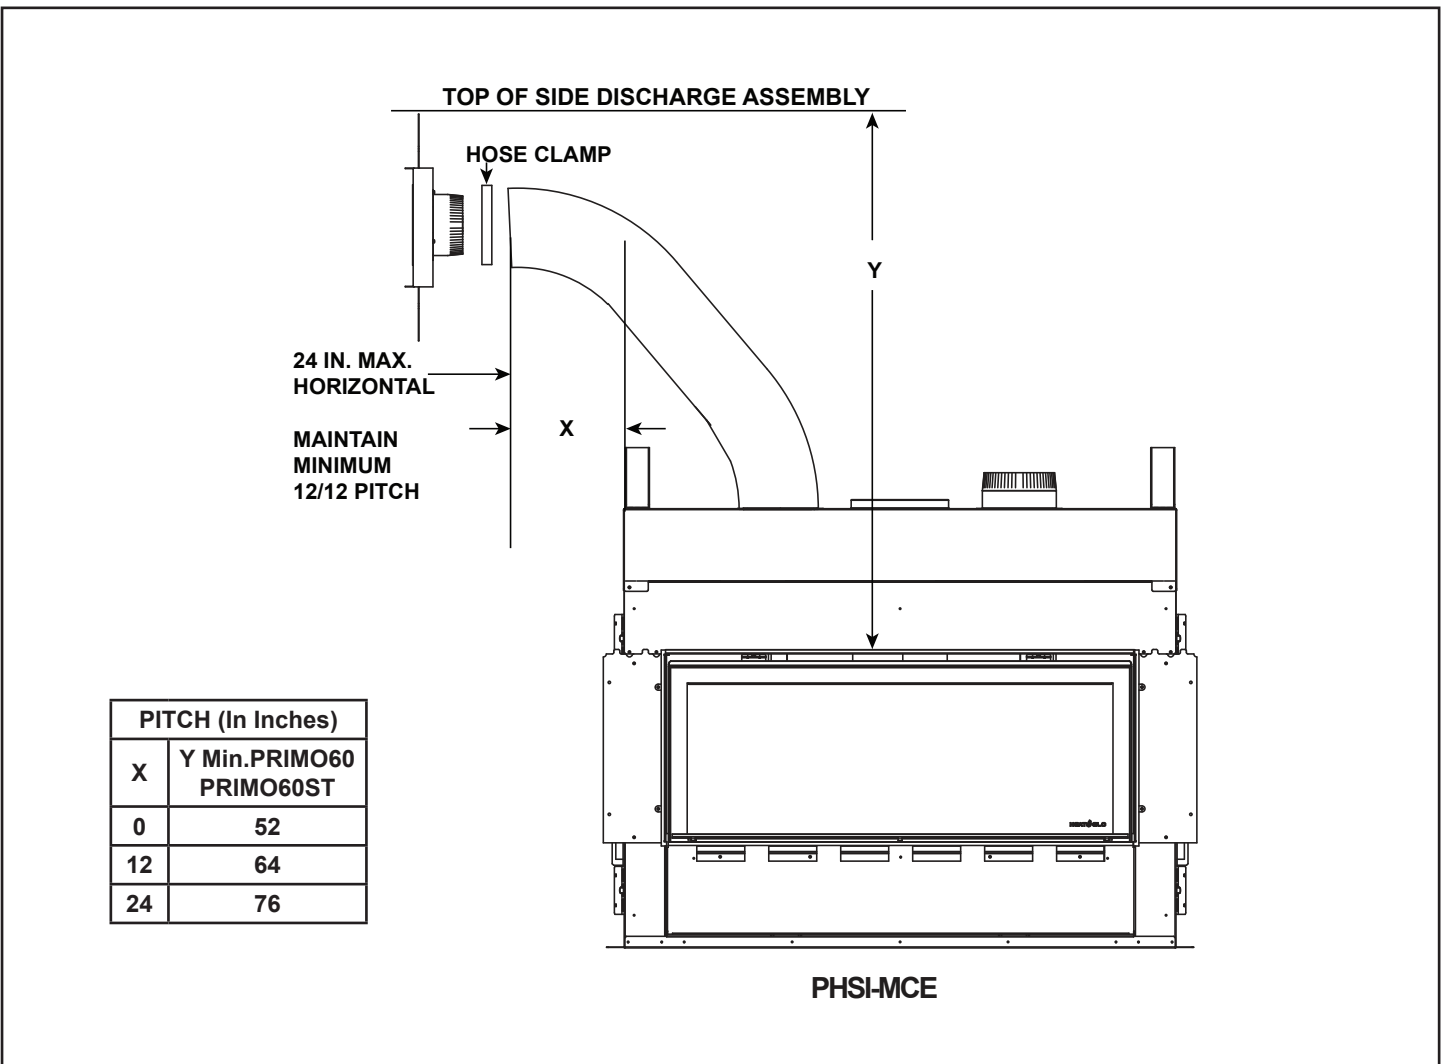

Figure 3.1 Side Discharge - Maintain Pitch
4. Cut flex venting to appropriate length to run from top of the appliance to the back side of the side discharge assembly ensuring there are not any kinks. Be sure that the flex venting is not so tight as to collapse where attached to the side discharge assembly and restrict airflow. Refer to Section 3 and Figure 3.1 regarding length and pitch requirements.